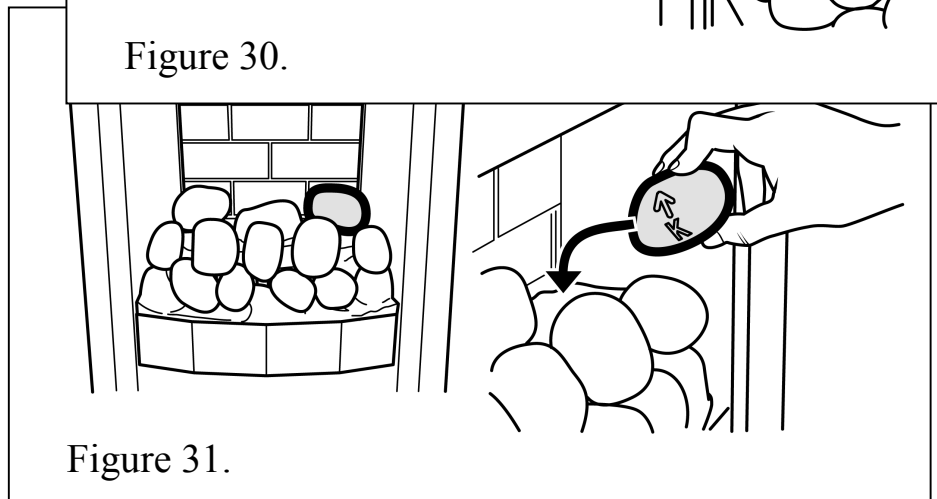

Figure 31.
**13.** Hold pebble 'K' upright with the arrow pointing to the top. Place pebble 'K' on top of the base pebble rear. (See figure 31)